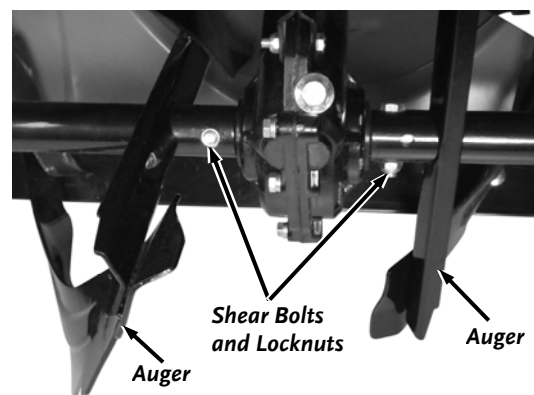

Figure 41
1. Remove the Shear Bolt and Locknut using two 13mm Wrenches (**Figure 41**).